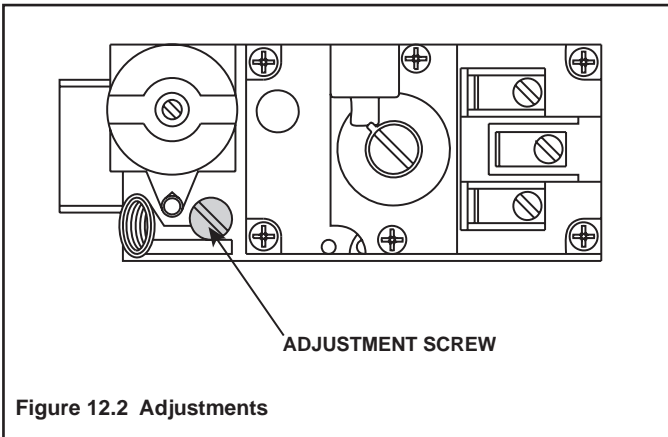

Figure 12.2 Adjustments
- If adjustment is needed remove cap screw from gas valve using 1/8 inch standard screwdriver (see Figure 12.2.)